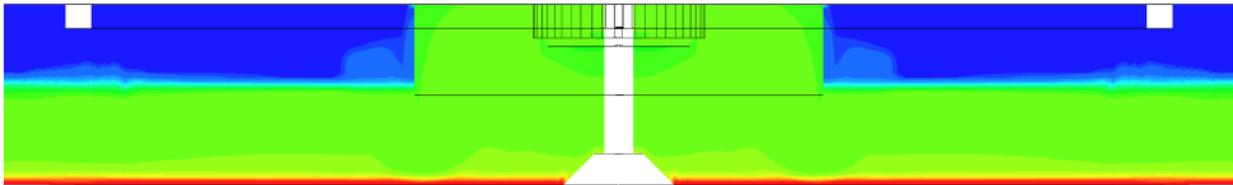

Figure 11: CFD model results for solids concentration of a clarifier.
- See Figure 11 for an example of model results.